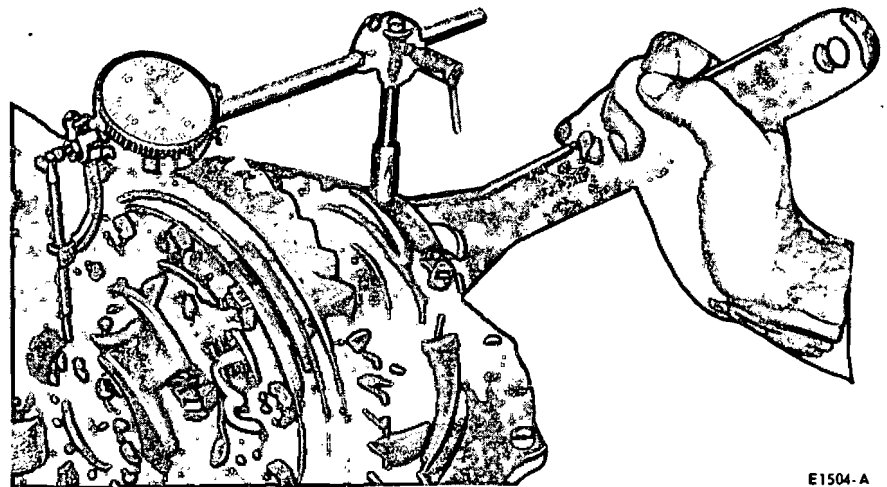

FIG. 18—Adjusting Side Bearing Preload
To secure a more uniform control of differential side bearing preload in service repairs, a dial indicator set-up such as shown in Fig. 18 is used.
4. Install a dial indicator as shown in Fig. 18.